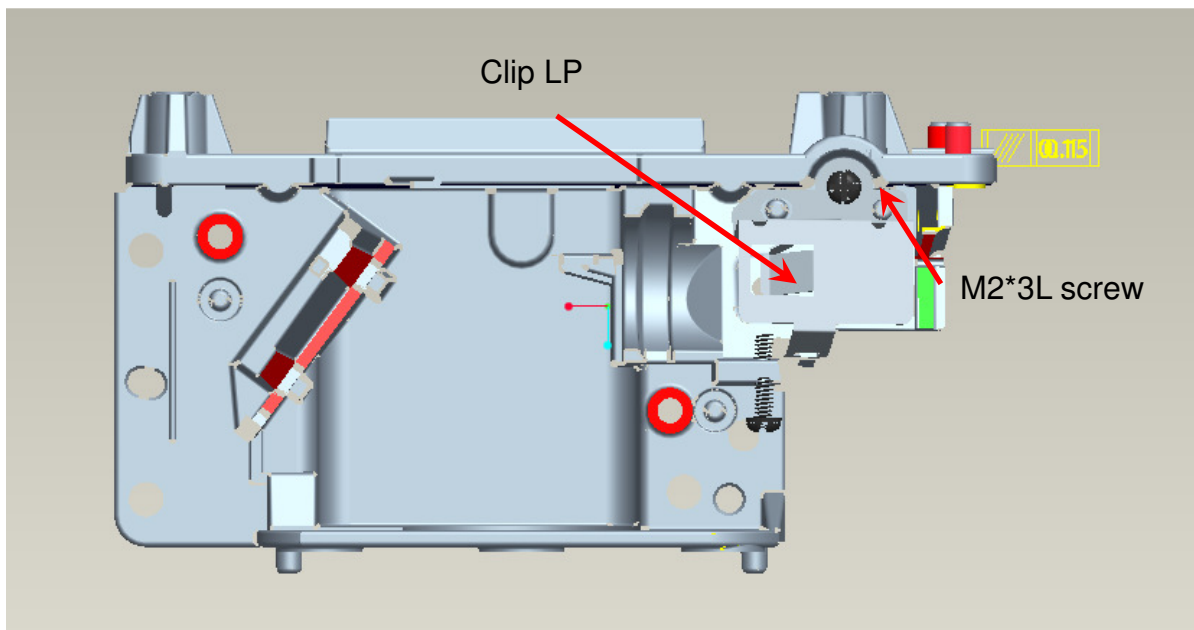

Fig. 1-1
- (1) Assembly "Clip LP" and lock with screw well (Fig. 1-1).